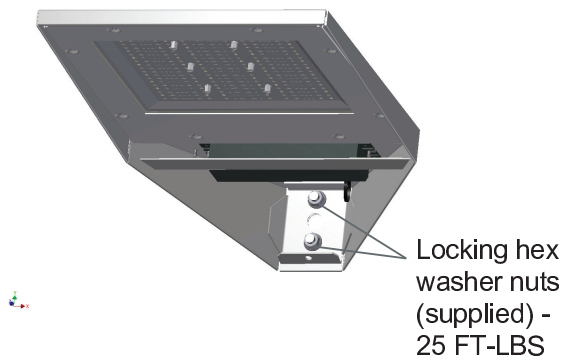

FIGURE 6
ASSEMBLY OF LUMINAIRE TO POLE AND EXTENSION ARMS - Figure 6
- 2. Position luminaire over studs. Take care to not pinch luminaire wires. See Figure 6.